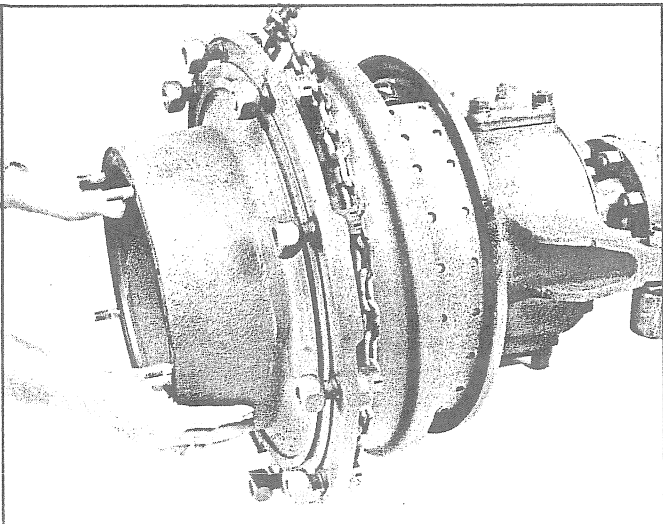

Fig. 30 - Installing Brake Drum and Hub
24. Support drum and hub assembly, with a suitable hoist, as shown in Fig. 30. Work hub and drum until inner bearing is over spindle shaft and drum is over brake linings.